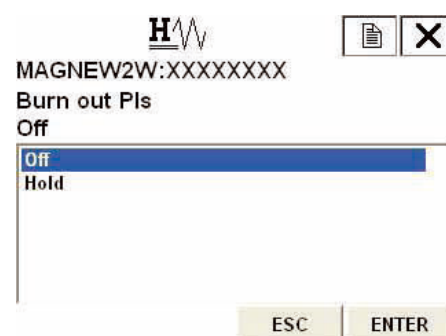

Figure 7-42
Figure 7-42 will then be displayed.
2. Once the display as shown in Figure 7-42 appears, move the arrow key up or down to select Off or Hold. After making a selection, press F4 (ENTER). If F3 (ESC) is pressed here, the selection will be canceled and the display will return to the Pulse output menu.